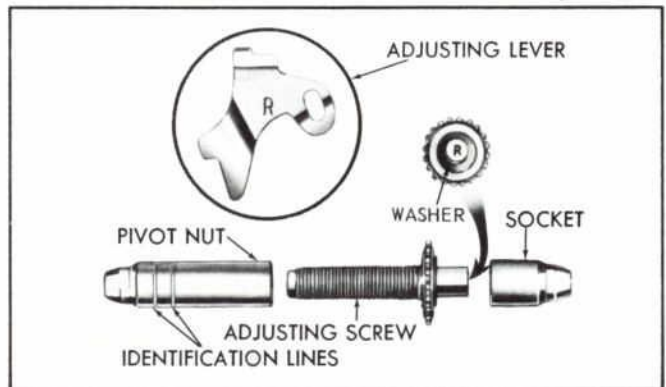

Figure 16—Adjusting Screw and Lever Identification
Interchanging the brake shoe adjusting screw assemblies from one side of the vehicle to the other would cause the brake shoes to retract rather than expand each time the automatic adjusting mechanism operated. To prevent installation on the wrong side of the vehicle, the socket end of the adjusting screw is stamped with an R or L (Fig. 16). The adjusting pivot nuts can be distinguished by the number of grooves machined around the body of the nut. Two grooves on the nut indicate a right thread; one groove indicates a left thread.
11. Hook the cable hook into the hole in the adjusting lever. The adjusting levers are stamped with an R or L to indicate their installation on right or left brake assembly (Fig. 16).